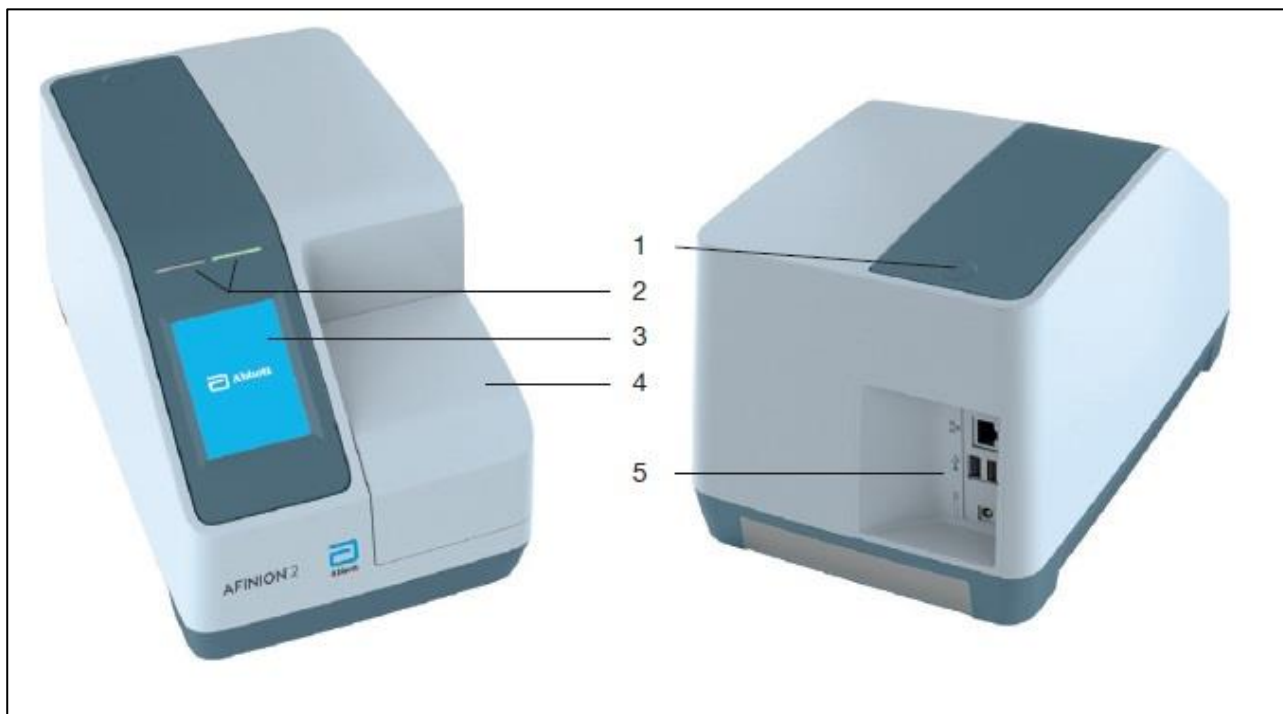

Figure 1. Main exterior parts of Abbott Afinion Analyser.
Abbott Afinion 2 analyser (Figure 1) is a portable analyser used for quantitative *in vitro* determination of HbA1c in whole blood.
Touch screen (Figure 1) allows operation of the instrument and only fingertips should be used – **do not use pens or other sharp instruments.**
The lid (Figure 1) opens automatically when required, but needs closing manually – **do not attempt to open the lid manually.**
Switch analyser on by pressing ON/OFF button (Figure 1) – start up and self-test is initiated.
- LED on top of analyser will flash red to indicate analyser is busy (Figure 1)
- Analyser is ready to use when LED on top of analyser turns green (Figure 1) and start up menu is displayed (Figure 2)